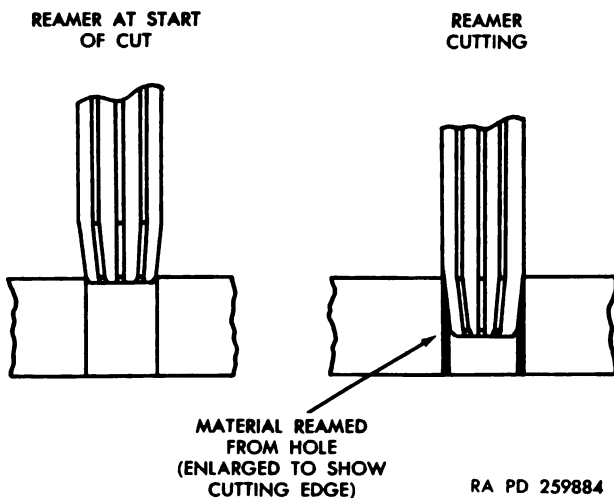
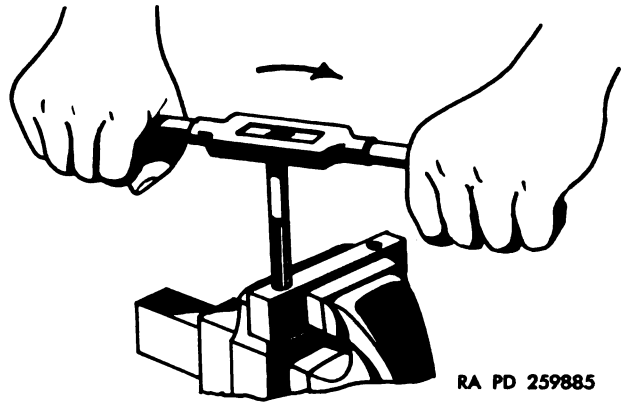

Figure 263. Reaming operation.
Figure 264. Use of tap wrench with reamer.
(3) Never force a small reamer into a hole with too much pressure, since reamers are delicate and easily broken.
(4) Most reamers are hand-driven tools. some reamers are power-driven.
b. Straight Hole Reamers. A hand reamer is turned by means of a tap wrench that is tightened on the square end of the reamer shank. Secure the work in a vise so that the hole to be reamed is perpendicular to the top of the vise jaws. Position the reamer at the top of the hole (fig. 263). Straight hole reamers have a slight taper at the end so that they will fit into the hole easily. Turn the wrench clockwise very slowly until the reamer is centered in the hole (fig. 264).